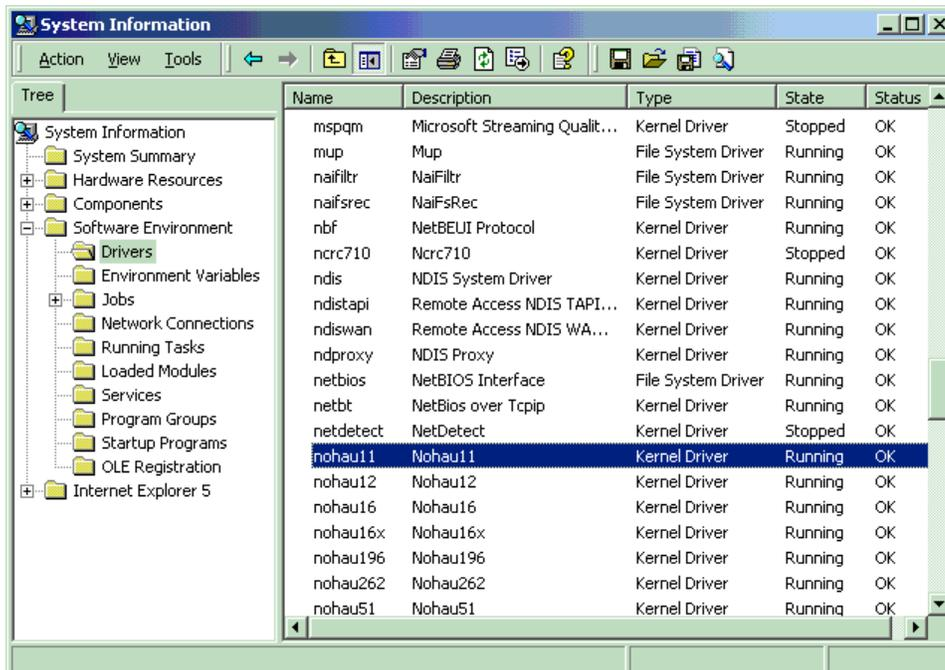

Figure 96. List of Active Drivers
4. Click **Drivers** to display a list of active drivers. Refer to the **Name** column and scroll down to Nohau16 (Figure 96).